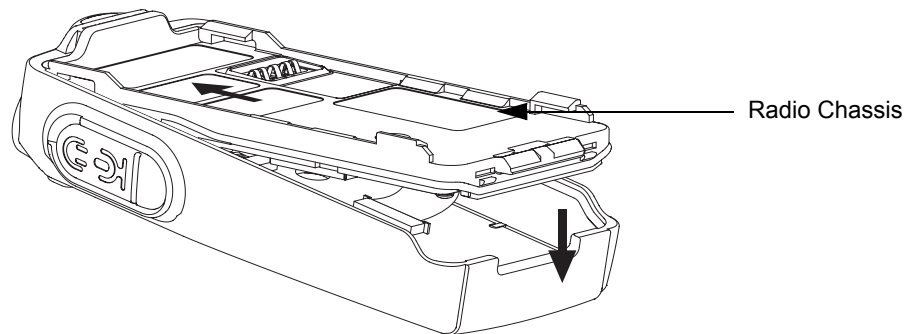

Figure 6-18. Chassis Assembly and Front Housing Assembly Reassembly
1. Assembly the chassis assembly to the Front Housing Assembly (1) as follow:
- b. Insert the Flexible Cable (39) from the main circuit board into the connector on the front circuit board.
**Note:** For re-use Flexible Cable (39), please ensure that it is properly folded. For new Flexible Cable (39), please ensure pre-folded flexible cable was provided and used.
4. Be sure the O-ring (24) is properly seated so that the radio is properly sealed.
6. Reassemble the Knobs (7,8), Dust Cover (42), Antenna (22), and Battery (31). (Refer Figure 6-18).